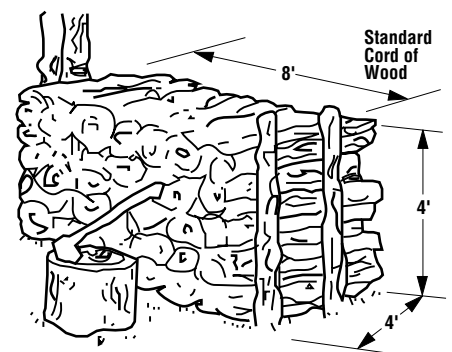

Figure 1
8. Be a knowledgeable wood buyer. There is a difference in cord sizes. A standard cord stack of logs is 4 ft. high by 8 ft. long by 4 ft. deep or the equivalent of this cubic footage, (**Figure 1**).